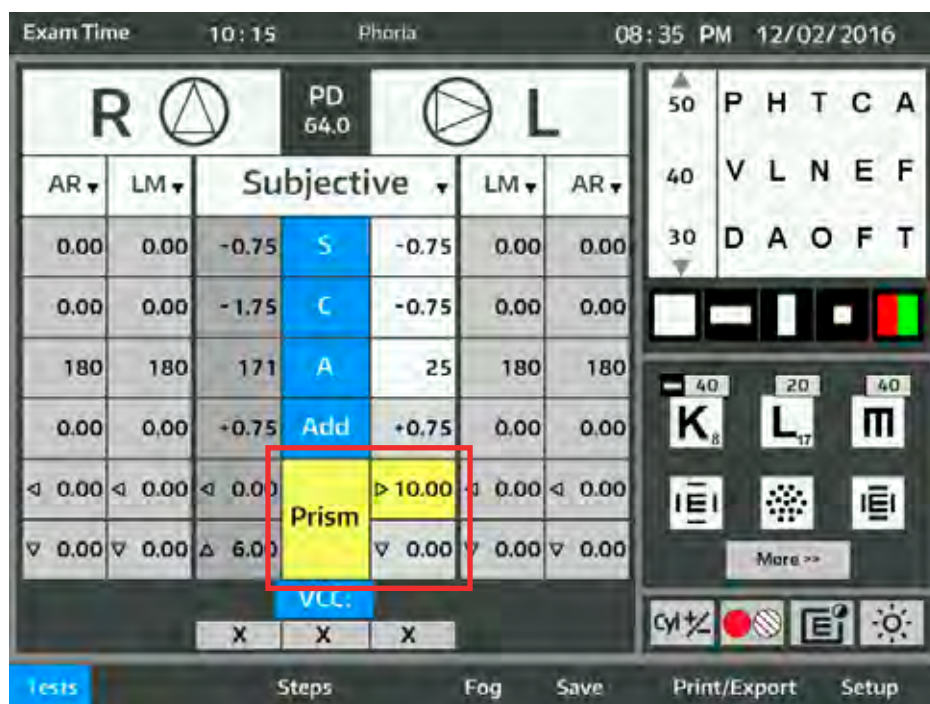

Figure IU-22 Vertical Phoria Test Screen
1. Touch **TESTS** and **PHORIA**. Refer to Figure IU-22.